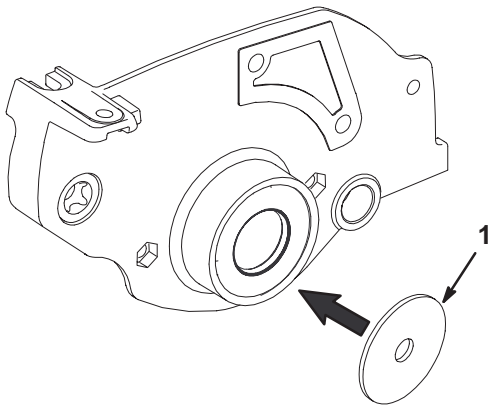

Figure 8
8. Using the installation washer (Fig. 8) included with the kit, press the inner seal into the side plate until the washer is flush with the outer edge of the side plate bore. Remove the washer. When properly installed, the seal should be positioned .104 inch below the edge of the side plate bore.